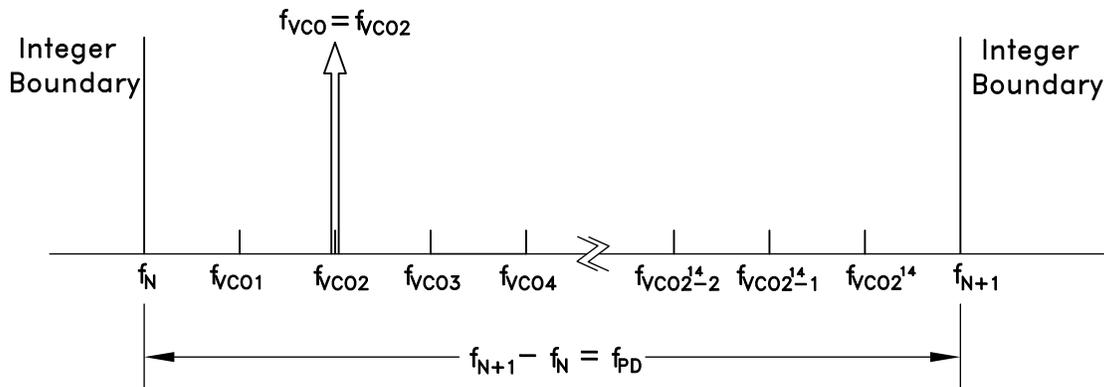

Figure 71. Exact Frequency Tuning
and  $f_{VCOk}$  are the channel step frequencies where  $0 < k < 2^{24}-1$ , As shown in Figure 71.
Some fractional PLLs are able to achieve this by adjusting (shortening) the length of the Phase Accumulator (the denominator or the modulus of the Delta-Sigma modulator) so that the Delta-Sigma modulator phase accumulator repeats at an exact period related to the interval frequency ( $f_{VCOk} - f_{VCO(k-1)}$ ) in Figure 71. Consequently, the shortened accumulator results in more frequent repeating patterns and as a result often leads to spurious emissions at multiples of the repeating pattern period, or at harmonic frequencies of  $f_{VCOk} - f_{VCO(k-1)}$ . For example, in some applications, these intervals might represent the spacing between radio channels, and the spurious would occur at multiples of the channel spacing.
If it is desirable to have multiple, equally spaced, exact frequency channels that fall within the same interval (ie.  $f_N \leq f_{VCOk} < f_{N+1}$ ) where  $f_{VCOk}$  is shown in Figure 71 and  $1 \leq k \leq 2^4$ , it is possible to maintain the same integer-N (Reg 03h) and exact frequency register (Reg 0Ch) settings and only update the fractional register (Reg 04h) setting. The Exact Frequency Channel Mode is possible if EQ 16 is satisfied for at least two equally spaced adjacent frequency channels, i.e. the channel step size.
To configure the HMC1190ALP6NE for Exact Frequency Channel Mode, initially and only at the beginning, integer (Reg 03h) and exact frequency (Reg 0Ch) registers need to be programmed for the smallest  $f_{VCO}$  frequency ( $f_{VCO1}$  in Figure 71), as follows:
1. Calculate and program the integer register setting  $\text{Reg 03h} = N_{INT} = \text{floor}(f_{VCO1}/f_{PD})$ , where  $f_{VCO1}$  is shown in Figure 71 and corresponds to minimum channel VCO frequency. Then the lower integer boundary frequency is given by  $f_N = N_{INT} \cdot f_{PD}$ .
$\text{Reg04h} = N_{FRAC} = \text{ceil} \left( \frac{2^{24} (f_{VCOk} - f_N)}{f_{PD}} \right)$  where  $f_N = \text{floor}(f_{VCO1}/f_{PD})$ , and  $f_{VCO1}$ , as shown in Figure 71, represents the smallest channel VCO frequency that is greater than  $f_N$ .
4. To change from channel 1 ( $f_{VCO1} = 2800.2$  MHz) to channel 2 ( $f_{VCO2} = 2800.3$  MHz), only  $\text{Reg 04h}$  needs to be programmed, as long as all of the desired exact frequencies  $f_{VCOk}$  (Figure 71) fall between the same integer-N boundaries ( $f_N < f_{VCOk} < f_{N+1}$ ). In that case